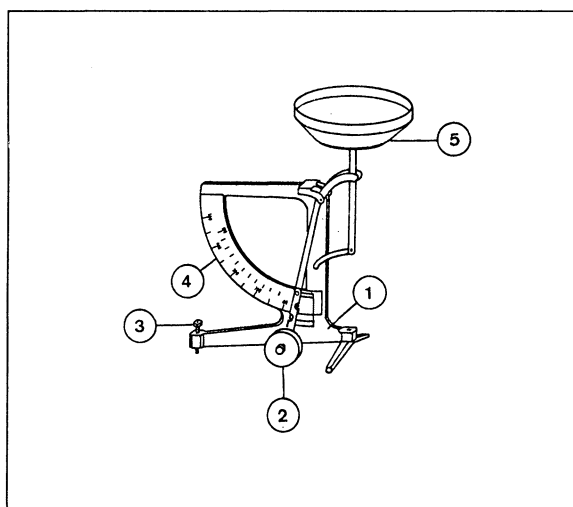

Fig. 1 ► 1.
1. Set up the single-pan balance as shown in fig. 1.
underneath (fig. 1): 0 – 100 g